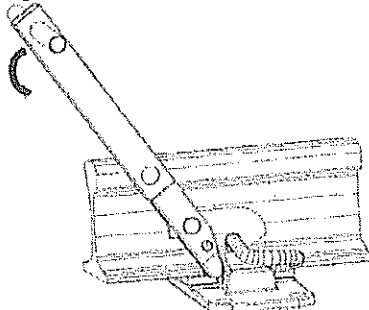

Fig. 59-Insert clip by using a panpuller
- Pull the handle firmly towards the chest until the whole of the straight stem of the clip is inside the shoulder, Fig. 59.